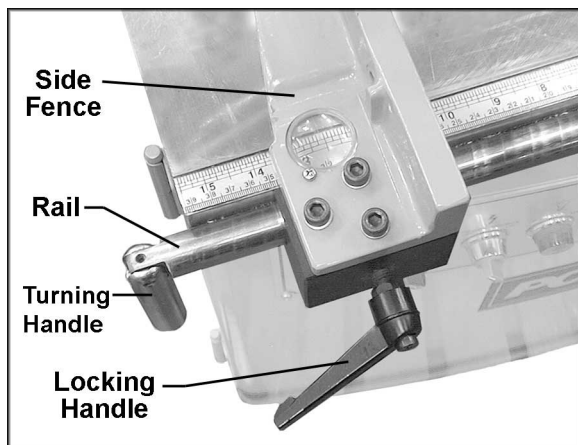

Figure 35
The two side fences (Figure 35) can be moved the length of the rail.
1. Loosen locking handle (Figure 35), and slide the side fence into position.
To remove a side fence from the table, lift up on the turning handle (Figure 35) until it is parallel with the rail. Slide the fence all the way to the end of the turning handle. The side fence will then hang down at the side of the machine, out of the way but convenient for quick reinstallation on the rail.